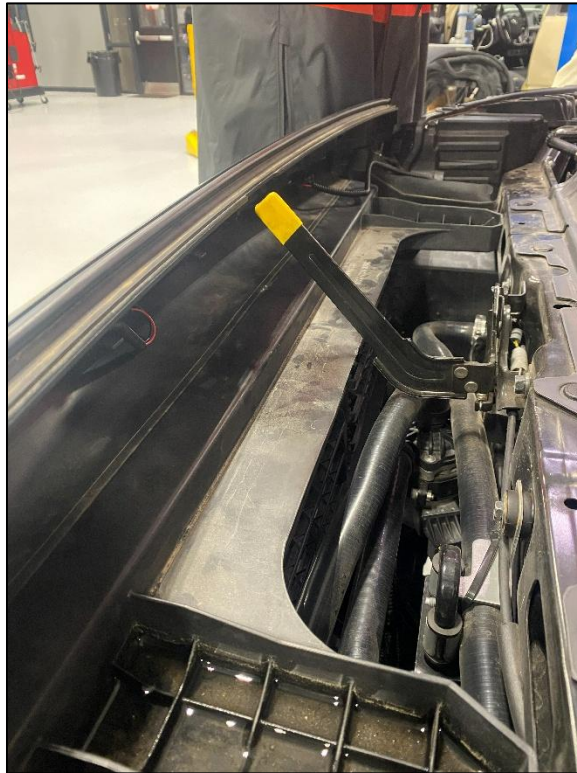

Figure 8
12. Reinstall the Grille into the vehicle. Be careful not to pinch the Light Harness upon reinstallation. *Figure 8.*